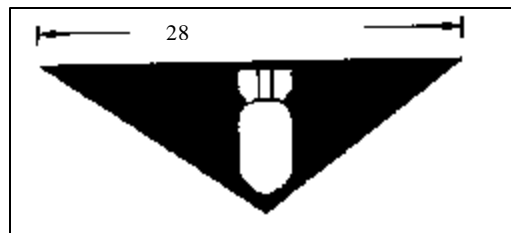

Figure 75. Standard UXO Marker.
- (1) Marking a UXO hazard is just as important as marking other hazard areas such as NBC areas, minefields, and booby-trapped areas. All of these hazards are marked by using triangular signs, if readily available, that by their background color indicate the danger involved. The standard UXO marker is shown in Figure 75. The background is red with a white bomb inset. It has the same dimensions as the other markers.